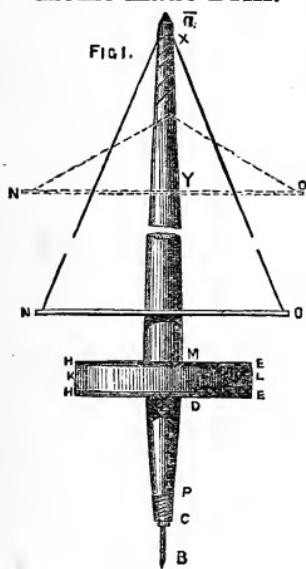

FIG. 2.
**Boring-Tools.**—There are several boring-tools for wheels, &c., to follow up drills, or to finish holes left in the castings. The rose-bit is of very general use in boring out brasses for bearings. It is made of steel turned, filed into teeth, and hardened. Fig. 1 represents two forms. Fig. 2 is the regular boring-bit of engineers ; it is a semicircular bit of hard steel shown more plainly at B ; the other end is drilled to receive the point of the back centre of lathe, which keeps it up to its cut. Let the wheel to be bored be chucked, and after being drilled (if required) turn out a recess the exact diameter of the
In fig. 1, AC is a shaft of common deal, thick where the fly-wheel is placed and tapering towards each end; HE is the flywheel, also made of deal and weighted with lead; KL is the wood; and HF, HE, two rings of lead: instead of rings a piece of pipe flattened might be nailed on the circumference. Fig. 2, HZ, ZF, shows the breadth of the rings of lead; S is the hole where the shaft is fixed. Figs. 1 and 3, NO is a cross-bar working on the shaft;  $S^2$  is the hole where the shaft passes—this must be loose; N and O, where the twine is fixed; PC is a wire wrapping to hold the bit (a small bradawl) firmly.